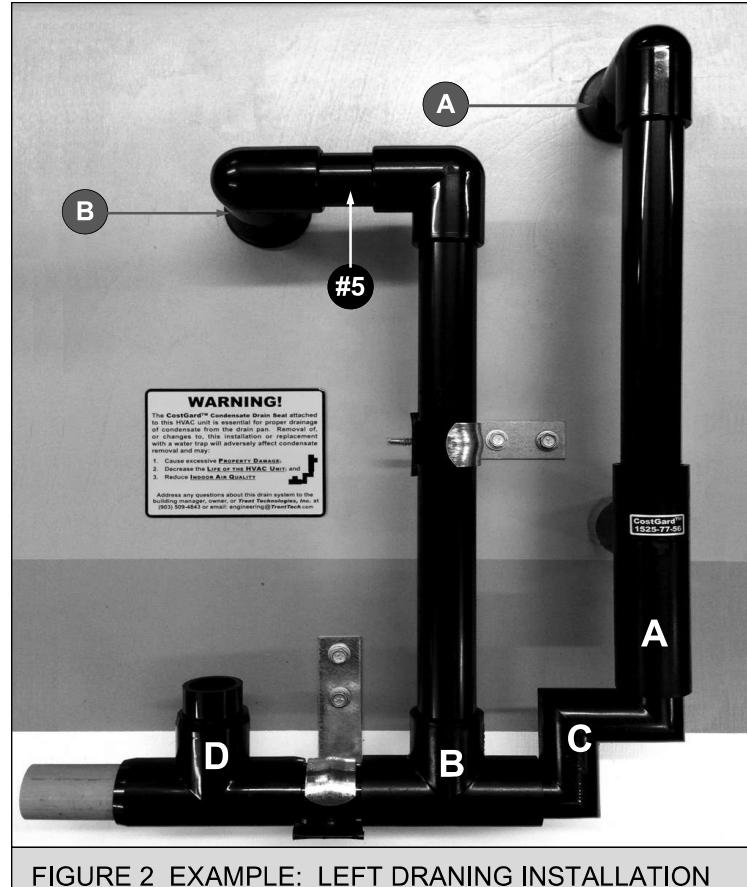

FIGURE 2 EXAMPLE: LEFT DRAINING INSTALLATION
Figure 2 shows the condensate draining to the left. For drainage to the right, rotate part "C" of the CostGard™ Condensate Drain Seal. Use pipe (8) instead of pipe (5) as shown in the illustration on the back of this page.